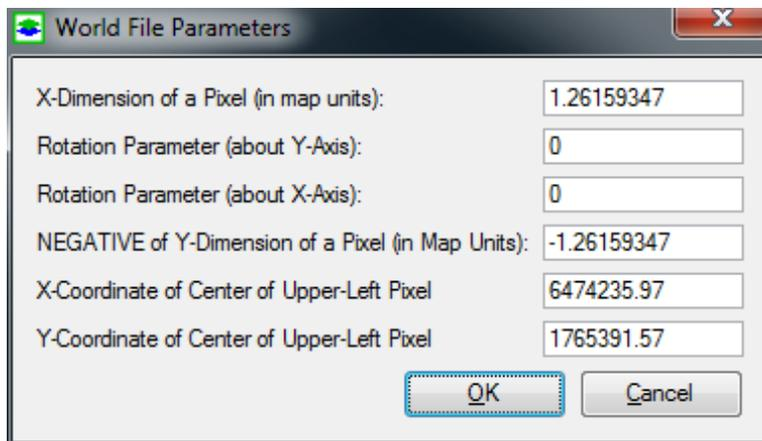

Figure 2.6. The World File Parameters dialog box
3. Once the map file is imported, the World File Parameters dialog box appears (Figure 2.6). A raster map is usually accompanied by a *world file* that is a plain text data file used to georeference the map. The format of the world file is given in Section 5.3.2. If a world file exists, Seer3D will import the file and display the parameters in the World File Parameters dialog box. Enter or edit the parameters appropriately and then click OK to import the map. If you click Cancel, the map will not be imported.